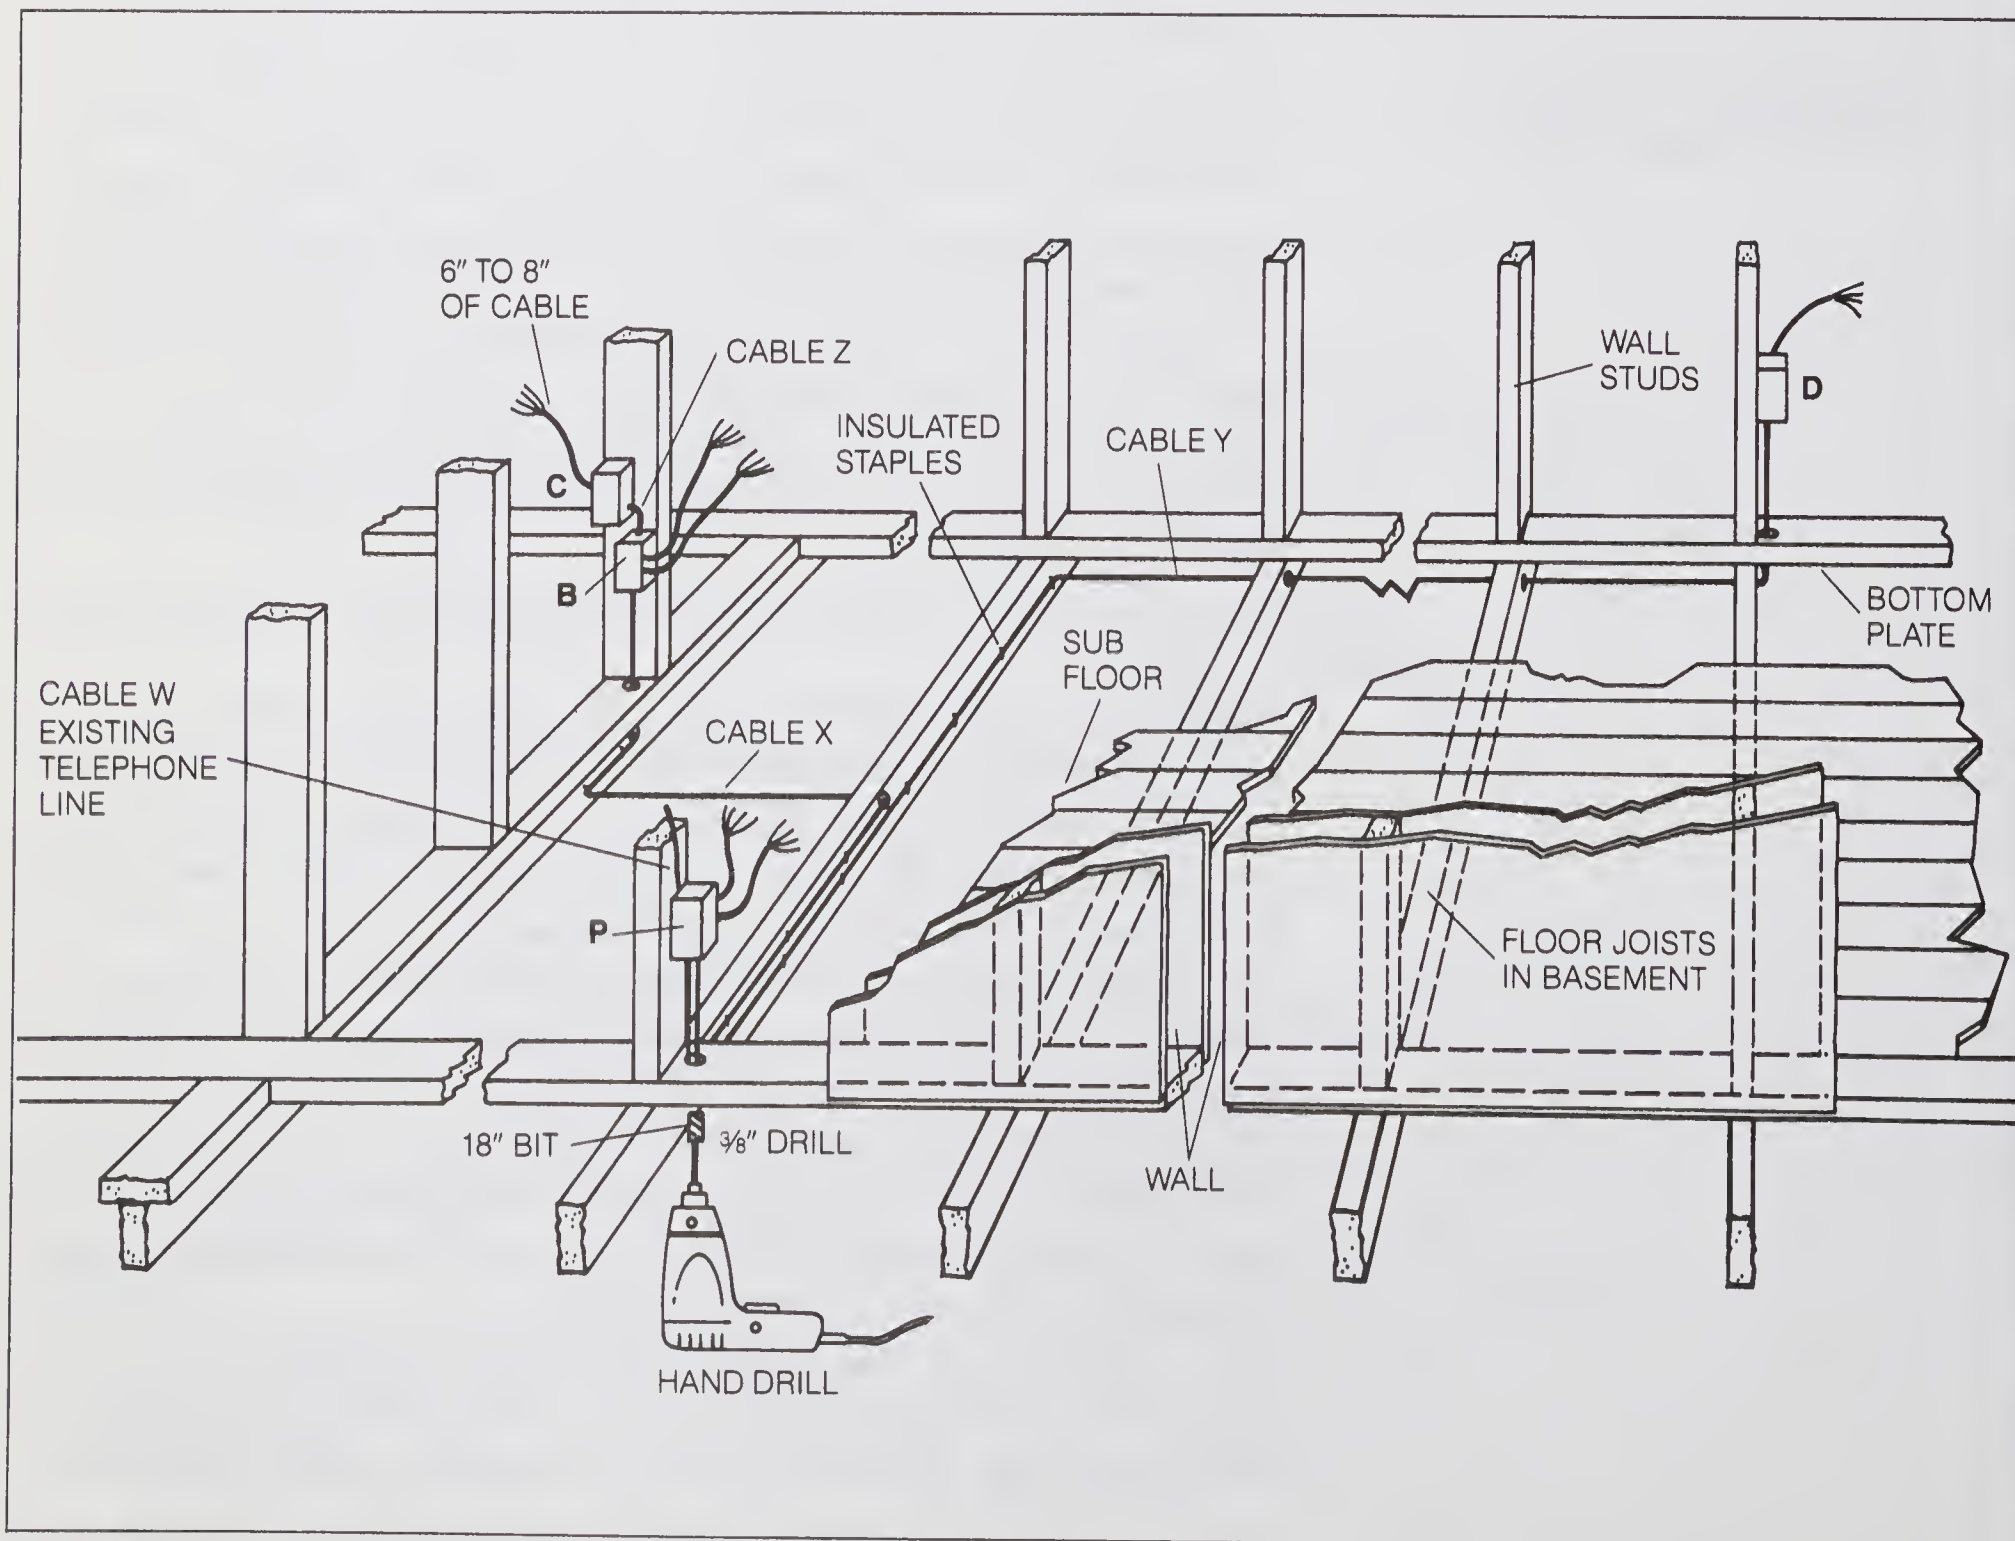

Figure 6-6.
An illustration of the cable runs is shown in *Figure 6-6*. Here are the installation steps.
5. Using a $\frac{3}{8}$ " drill with an 18" bit as shown in *Figure 6-6*, drill a hole up through the bottom plate to insert the cables for outlets B, C, outlet P and outlet D. At the appropriate places where the cables will have to cross, drill $\frac{1}{4}$ " holes through the floor joists (*Figure 6-6*). These holes may have to be drilled at an angle.
9. Attach the two cables of sufficient length, one for outlet B and C (X) and one for outlet D (Y), to the end of the coat hanger with masking tape. Taper the joint so it will go through the bottom-plate hole easily. Pull the cables up through the P outlet box until 6" or 8" of the cables are hanging out the box (*Figure 6-6*).
12. String the cable (Z) from the opening of outlet B to the opening of outlet C. This is a short cable of about 2 feet.
15. Repeat steps 13 and 14 for the outlet box for outlet D. The cable runs should now look like *Figure 6-6* with the boxes in place and the cables extending from the boxes.